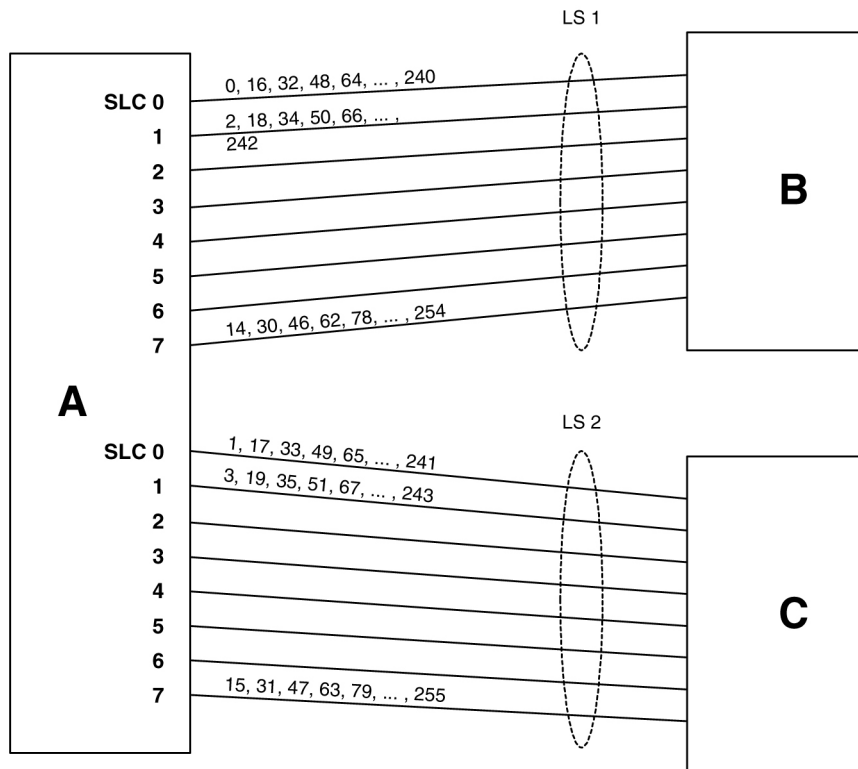

Figure 23: Random SLS Mapping to a Combined Linkset
Figure 23: Random SLS Mapping to a Combined Linkset shows an example of a combined linkset from node A to nodes B and C, with 8 links per linkset. Since 8 bits allows for values 0-255 (decimal), the figure shows how these values are internally mapped to the links of the combined linkset. For ease of reading, not all values are shown.
3. The changed SLS value (with fifth and possibly also first bits ignored) is then divided by the number of links in the linkset (not a combined linkset) and the remainder gives the SLC value. For example, in Figure 23: Random SLS Mapping to a Combined Linkset, the SLS value 78 is mapped to SLC 7 in linkset LS1 as follows: